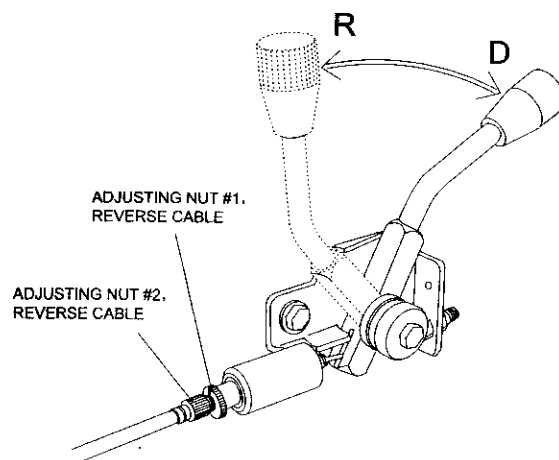

Figure 4
- a. Push the reverse lever forward to the "D" position for the kart to move forward, pull the lever back to "R" for the kart to move backward. (See Fig.4)